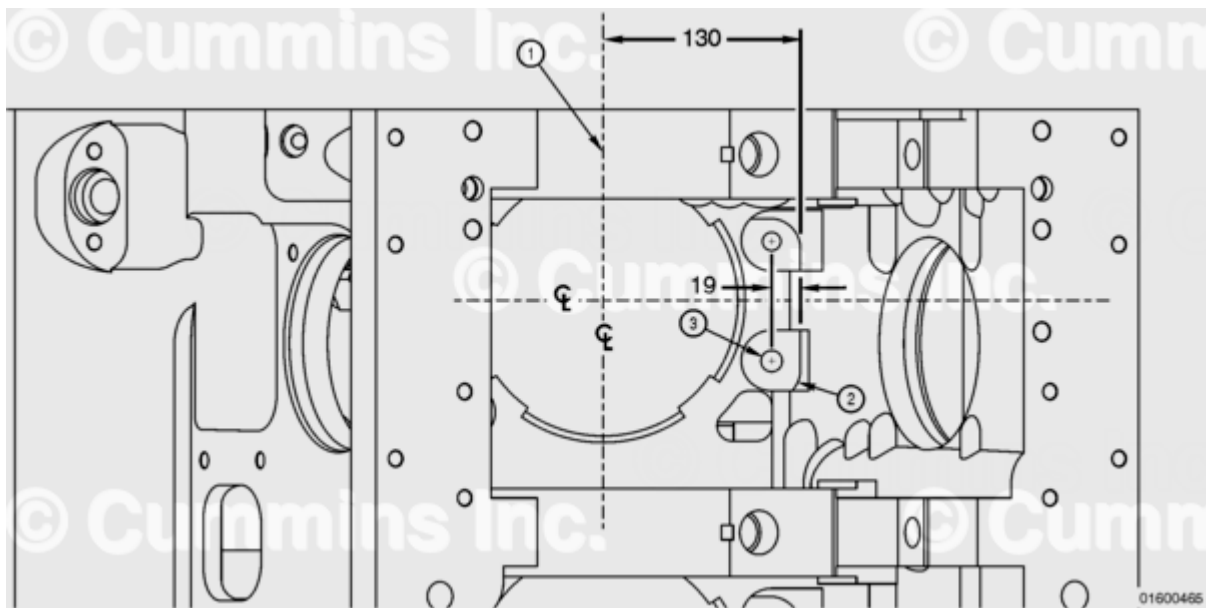

Figure 11: Lower Piston Cooling Nozzle Alternate Datum (1) Alternate Datum, (2) Corner can be removed, (3) M14 x 2 - 6H Thread.
- Figure 11 shows how to locate an alternate datum for the machining process.